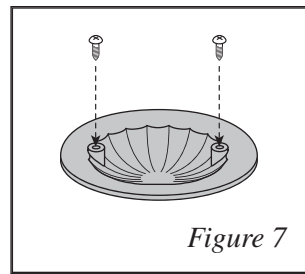

Figure 7
1. Insert small screws into holes on the underside of lens hood as shown in *Figure 7*. Only screw them part way so they can twist lock into place on top of lens.